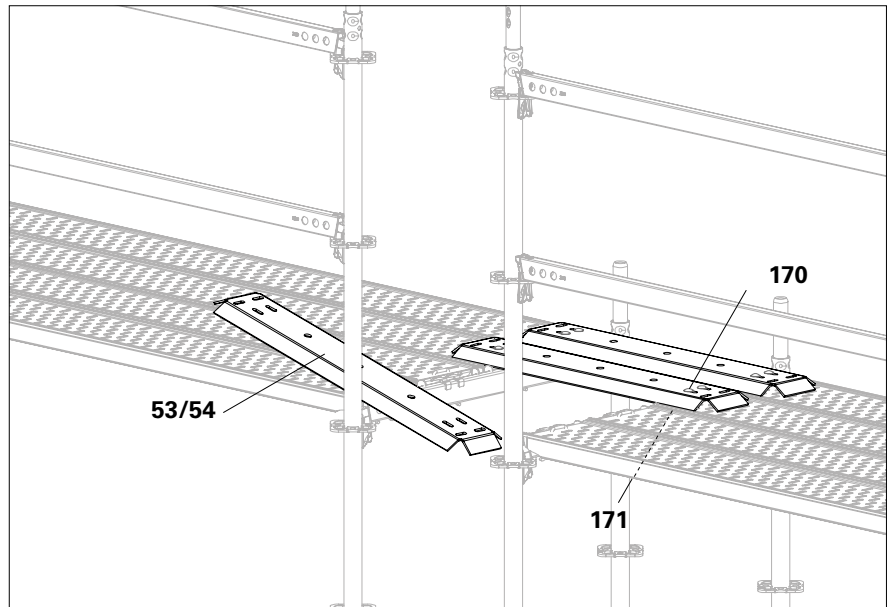

Fig. A7.04a
- The screw connection can be made through any hole or slot. (Fig. A7.04a)